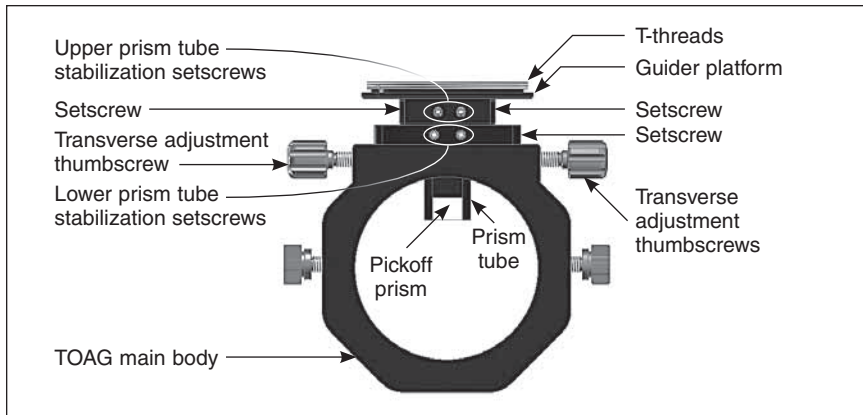
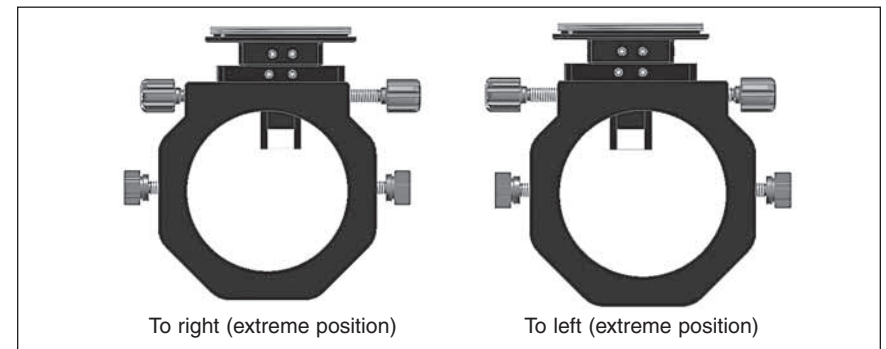

Figure 2. Parts of the TOAG
Figure 4. Side-to-side adjustment
Since the initial release of the TOAG, we have added four prism tube stabilization setscrews to eliminate any possible flexing of the guide camera relative to the TOAG main body (**Figure 2**). No other thin off-axis guider on the market has this unique stabilization feature. The four setscrews provide enhanced rigidity to the prism tube and, thus, to the autoguider platform where the guide camera is installed. These four setscrews are perpendicularly oriented relative to the other, lateral setscrews that also serve to secure the prism tube to both the guider platform and the TOAG main body. This cross-directional stabilization provides a highly rigid, flexure-free unit to insure trouble-free guiding.
The pick-off prism can be adjusted side-to-side a small distance, using the two transverse adjustment thumbscrews (**Figure 2**). Turn both thumbscrews toward or away from you to move the prism laterally (**Figure 4**). This is a great feature when looking for a suitable guide star, as it allows having a virtual prism with about twice the width of the original prism. This adjustment should only be done
- c. Compare the obtained main camera image to the autoguider image. The autoguider image might be out of focus. If so, loosen the upper two prism tube stabilization setscrews and the two lateral setscrews adjacent to them (refer to **Figure 2**). This allows you to move the guider platform up or down a few millimeters – without moving the prism tube.